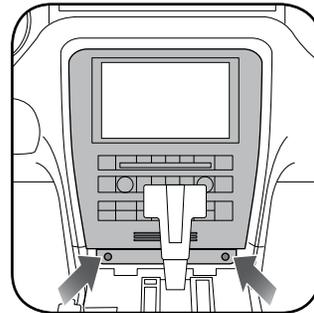

Fig. 1.3
2. Remove (2) 7mm screws securing the radio bezel. Disconnect and remove the radio bezel. (Fig. 1.3)